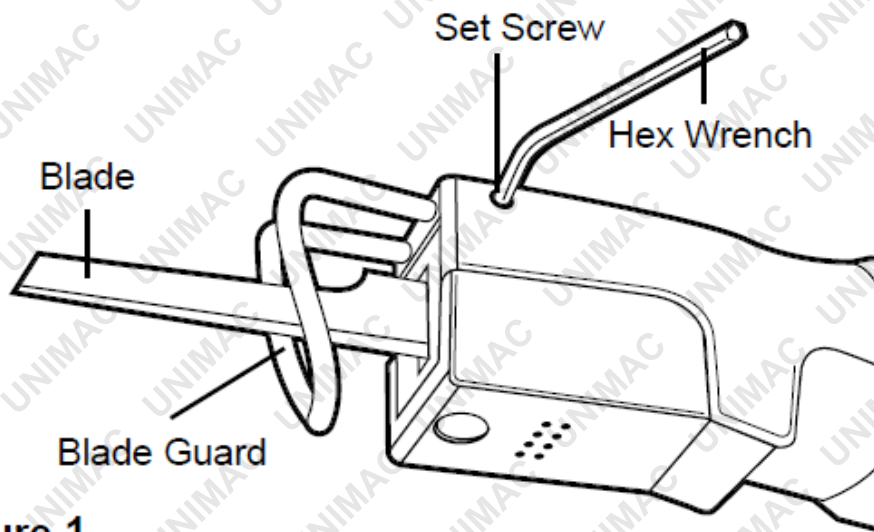
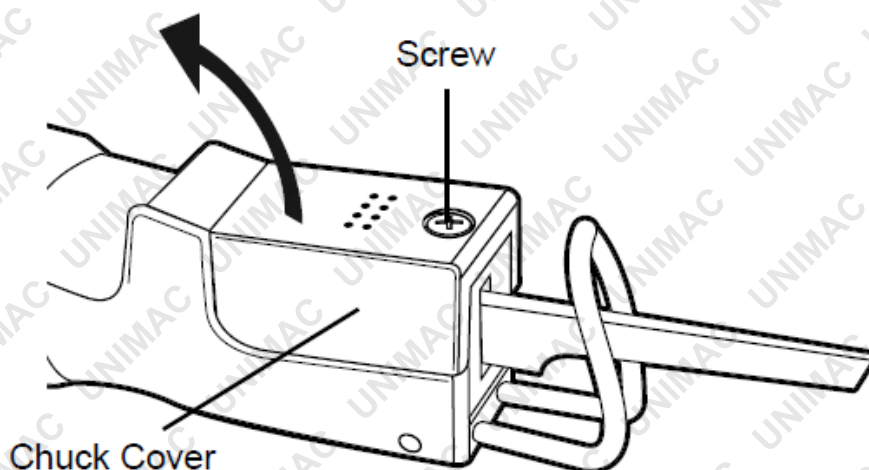

Figure 1
Figure 2
Note: If an automatic oiler system is not used, add a few drops of Pneumatic/Air Tool Oil before each use into the airline connection before operation (fig 1). Pump lever a few times to ensure oil runs through tool (fig 2).
2. To remove the Blade Guard, use the Wrench to loosen the two Set Screws on the outside of the tool. When replacing the Blade Guard, place it in the slots and tighten the Set Screws. See Figure 1, above.
3. To change blades, first open the Chuck Cover by removing the Screw. Swing the Chuck Cover back on its hinge. See Figure 2, above.